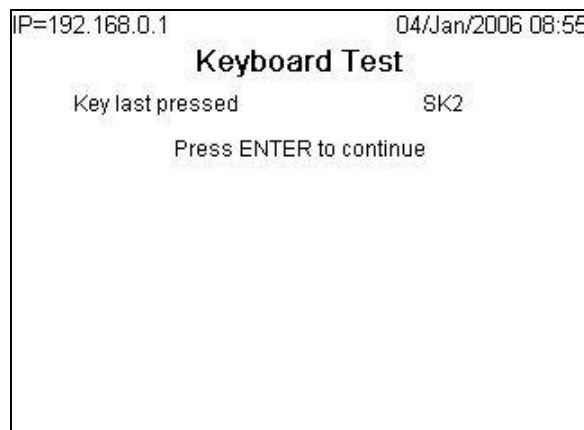

Figure 4-17: Keyboard Test Screen
- Keyboard Test (Figure 4-17)—Enables testing of the keyboard. Each key that is pressed will be shown on the display. When testing is complete, press the EXIT softkey  to return to the menu tree.